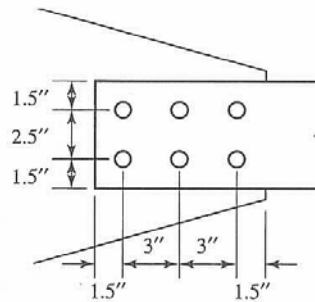

FIGURE P7.3-2
- 7.3-2 The tension member shown in Figure P7.3-2 is a PL $\frac{1}{2} \times 5\frac{1}{2}$ of A242 steel. It is connected to a $\frac{3}{8}$ -inch-thick gusset plate (also A242 steel) with $\frac{3}{4}$ -inch-diameter bolts.